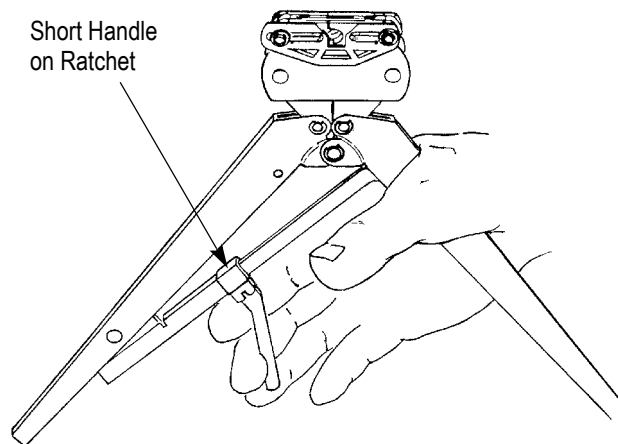

Figure 4
3. Close the handles part way by pulling the short handle, then grasp the tool handles and completely close the handles until the ratchet releases. See Figure 4.